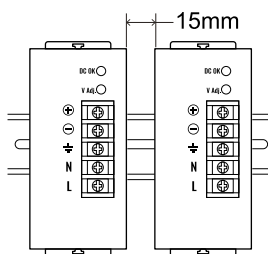

Fig. 1
2. The vent holes in the left of the housing must be 15mm minimum distance from other equipment to allow for heat dissipation. (Fig. 1)